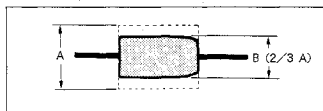

Fig. 7-77.
- 4) Set the SEL switch of the track shift jig to ON, then turn the track shift knob until the RF waveform amplitude becomes $2/3$. (See Fig. 7-77.)